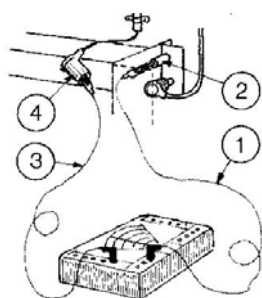

Fig. 27 Measuring ionisation
Connect the black wire (-) (1) of the μA -meter with the ionisation connector electrode (2) on the boiler (fig. 27). Connect the red wire (+) (3) of the μA -meter with the ionisation cap (4). The ionisation of the pilot burner must show a minimum of 5 μA over 10 seconds after which the burner falls into flame detection lockout. Wire the main gas valve back to its original condition. Repeat the test by starting the boiler and allowing to fire up to maximum operation. Check that the μA -meter reads at least 5 μA after 10 seconds.